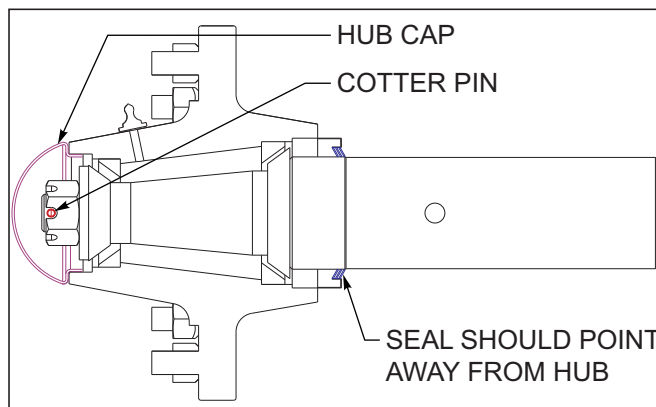

Figure 4-17: Triple Lip Seal
The triple-lip seals should point away from the hub to keep contaminants out and allow grease to pass *See Figure 4-17.*
11. Install a new cotter pin and replace the hub cap. *See Figure 4-17.*